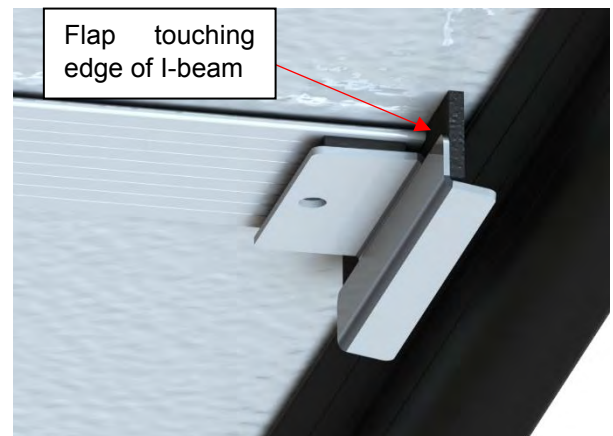

Figure 112
- 4) Stick the wiper bracket on the middle of the I-beam by holding it in place with pressure for at least 60 seconds. This ensures a proper bond to the I-beam. **Ensure to place the wiper bracket flap at the edge of the I-beam directly into the gap between the I-beam and the C-channel** (Figure 112)